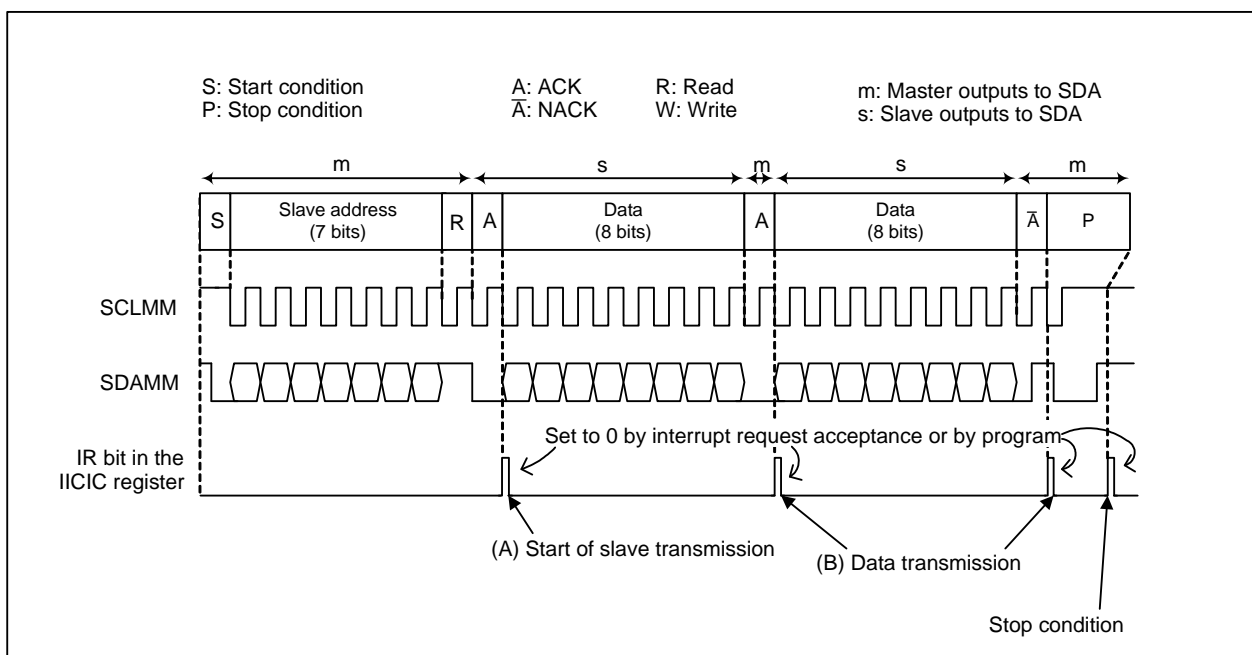

Figure 23.20 Example of Slave Transmission
Slave transmission is described in this section. The initial settings described in 23.3.10.1 “Initial Settings” are assumed to be completed. Figure 23.20 shows the example of slave transmission. The following programs (A) to (B) are executed at (A) and (B) in Figure 23.20, respectively.